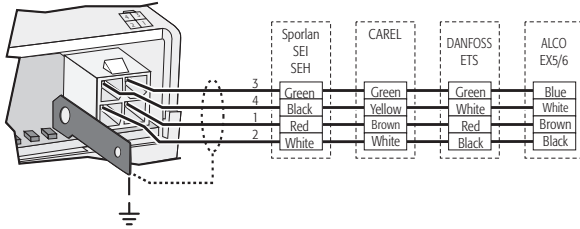

Fig. 3.12
- Valve: with reference to Fig. 3.12 connect the valve according to the type set for the "Valve type" parameter.